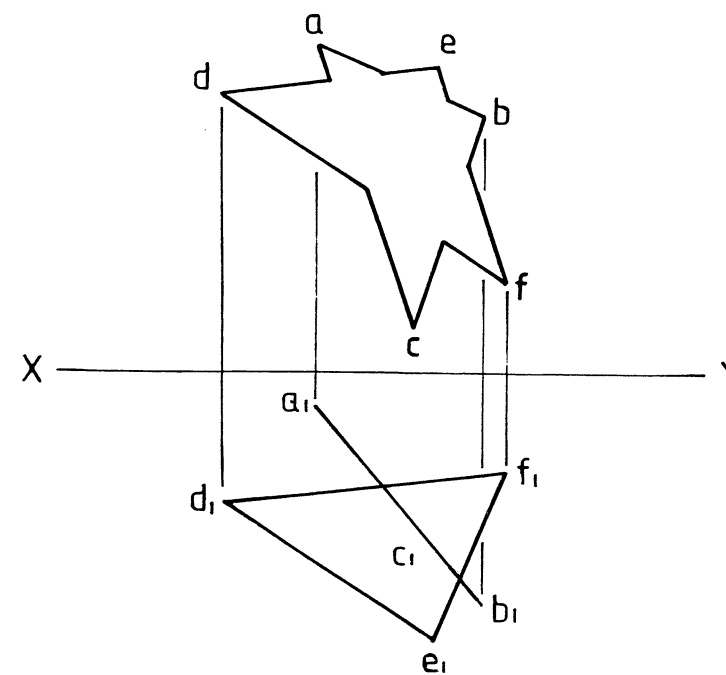

FIG. 1.4
- 1.4 Determine the trace (line of penetration) and hidden detail between the two plane figures shown in FIG. 1.4.
- 1.4 Bepaal die snyspoor (deurdringingslyn) en verborge detail tussen die twee vlakfigure getoon in FIG. 1.4.